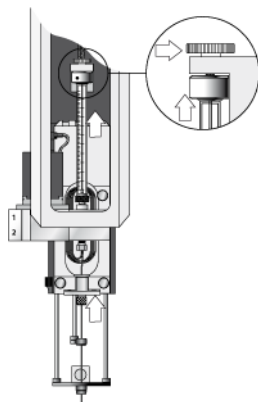

Figure 28 Connecting the DLW Syringe Plunger Holder
- 4 Move the plunger up (plunger holder) until the thread of the screw catches the thread of the plunger bushing. Tighten the screw to fix the plunger holder. (See Figure 28 on page 81.)